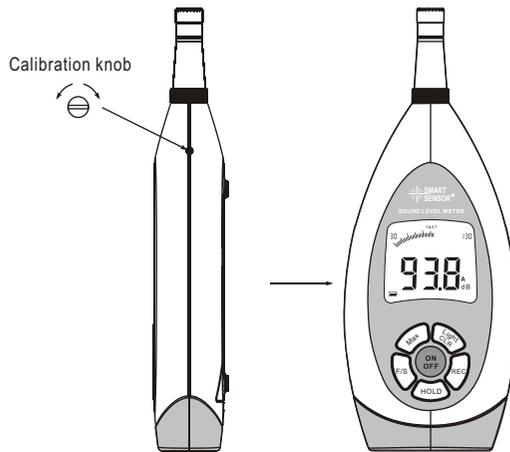

Figure 1
- Insert the microphone head into the standard calibration jack, set the standard source as 94dB@1KHZ, use a small - screwdriver adjusts the calibration knob at the round hole until LCD display 93.8, as shown in figure 1 :